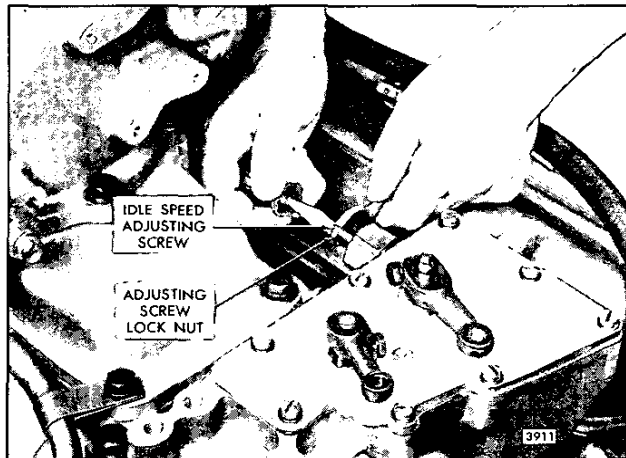

Fig. 16 – Adjusting Engine Idle Speed
3. Start the engine and loosen the idle speed adjusting screw or locknut, if used. Then adjust the idle screw to obtain the desired idle speed (Fig. 16). Hold the screw and tighten the locknut to hold the adjustment.
1. With the engine running at normal operating temperature and with the buffer screw backed out to avoid contact with the differential lever, turn the idle speed adjusting screw (Fig. 16) until the engine is operating at approximately 15 rpm below the recommended idle speed. *The recommended idle speed is 500 to 600 rpm, but may vary with special engine applications.*